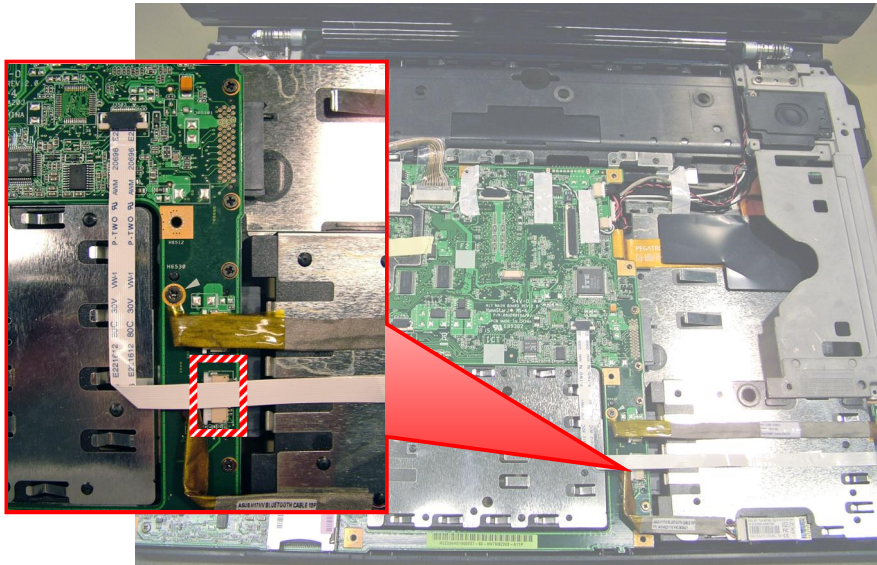

Fig. 28 Disconnecting optional Bluetooth cable.
1. Disconnect the Bluetooth cable from the header on the main board (see Fig. 28 on page 17).